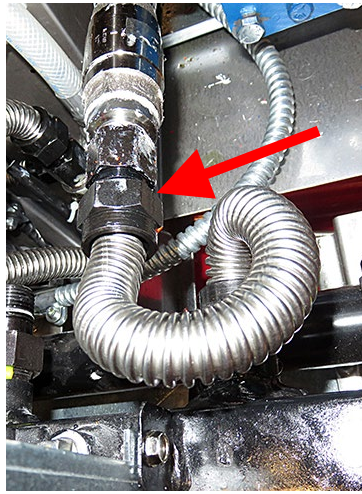

Figure 24
27. Reattach the flexline disconnected in step 16 (see Figure 24).